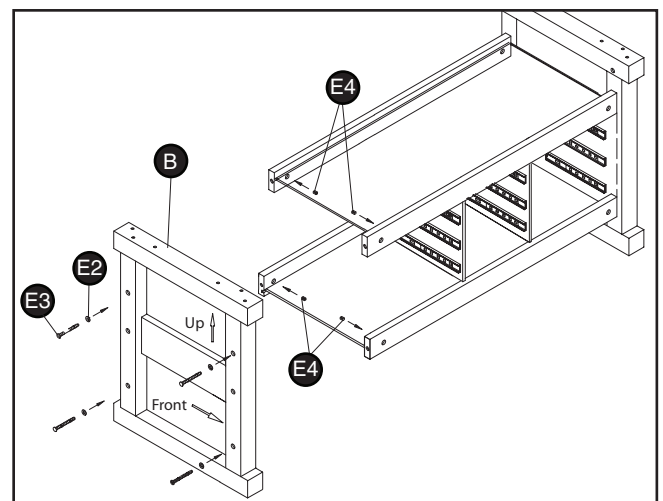
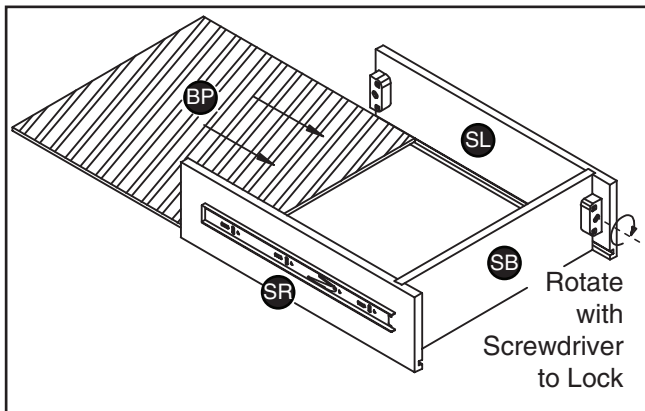

Figure 16. Left leg installation.
Figure 17. Initial drawer assembly.
11. Insert the remaining four barrel nuts (E4) (Figure 16) into the other end of the previously installed cross braces.
12. Position the left side leg (B) on the floor so the UP arrow is pointing upward and the FRONT arrow points to the front as shown in Figure 16.
13. Carefully engage the slots in the left leg with the cross supports and panels, and place a flat washer (E2) on each remaining barrel bolt (E3) (Figure 16).
15. Align the pre-drilled holes in the underside of the work bench table top (A) with the pre-drilled holes in the legs.
17. Using a standard screwdriver, attach the right (SR) and left (SL) drawer sides to the drawer backs (SB). Then slide the drawer bottoms (BP) into the drawer side grooves (**Figure 17**) until they are fully seated in the grooves.